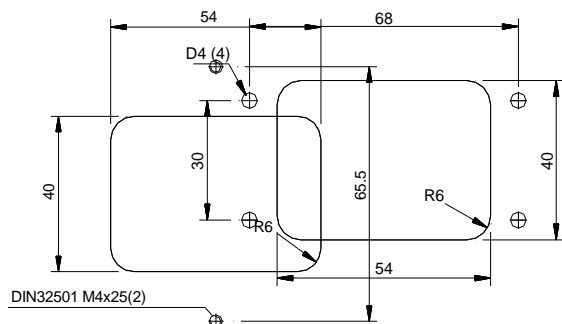

Figure 5 –Standard display housing for fixing with welded bolts on control panel
- Housings according to Fig. 5 (fixing with welded bolts) or Fig. 6 (fixing with frame).